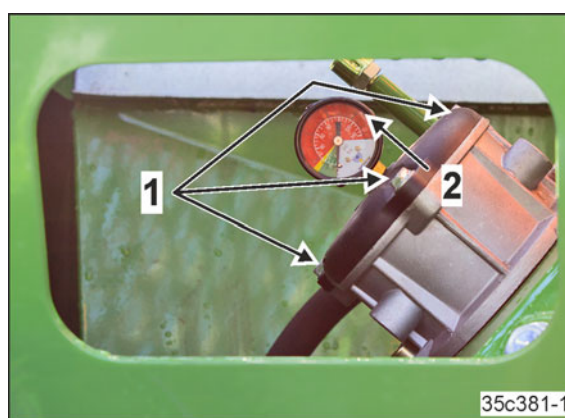

Fig. 332
1. Loosen the two hexagon bolts 6x25 (Fig. 332/1).
2. Lift the cover (Fig. 332/2)